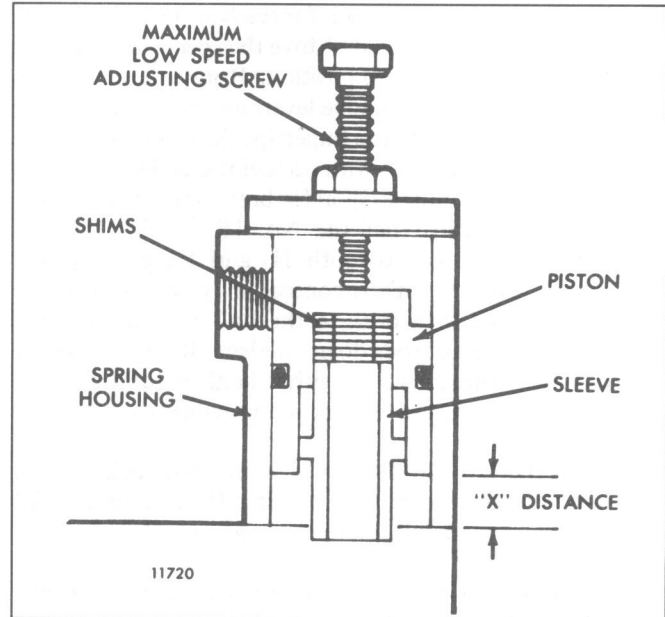

Fig. 15 - Dual Range Governor (Top View)
- d. Note the distance ("X" distance Fig. 15) the piston is from the bottom of the spring housing when it is against the low maximum speed screw, then remove the sleeve from the piston. When checking this distance, the piston should be held tight against the adjustment screw of the cover that is held in position, with its gasket, against the end of the spring housing.